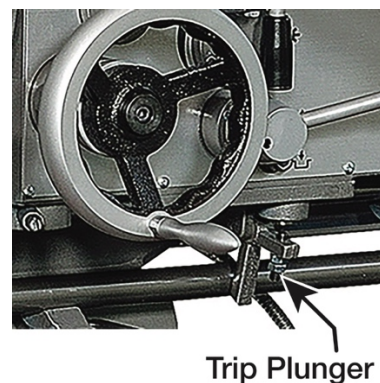

Figure 13-6
4. While the apron is auto-feeding, only the outward-facing tip of the trip dog can contact the trip plunger (see Figure 13.6).